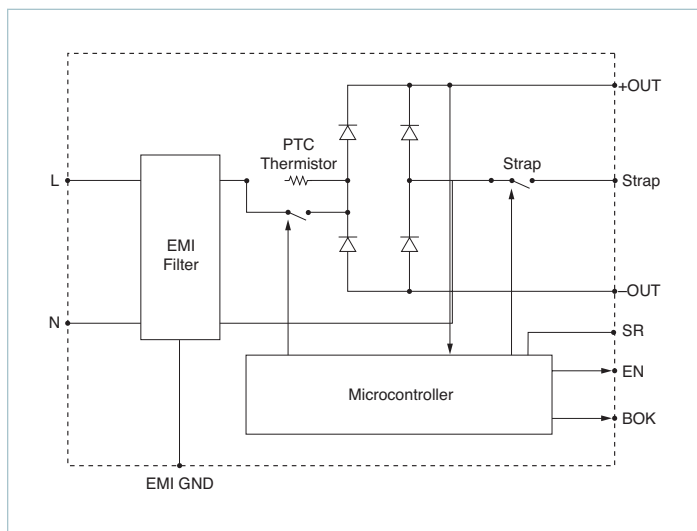

Figure 9 — Functional block diagram: FARM3 module
The ENMod component power front-end system for EN compliance provides an effective solution for an AC front end of a power supply enabled with Vicor DC-DC converters. The ENMod system's basic building blocks are the MiniHAM™ passive harmonic attenuation module, the FARM3™ autoranging AC-DC front-end module (Figure 9) and a discrete EMI filter.
**Functional Description** (FARM3, see Figures 9 & 10)
A signal diode should be placed close to and in series with the PC or (GATE-IN) pin of each converter to eliminate the possibility of control interference between converters. The Enable pin switches to the high state (15V) with respect to the SR pin to turn on the converters after the power-up inrush is over. The Enable function also provides input overvoltage protection for the converters by turning off the converters if the DC bus voltage exceeds 400VDC. The thermistor bypass switch opens if this condition occurs, placing the thermistor in series with the input voltage, reducing the bus voltage to a safe level while limiting input current in case the varistors conduct. The thermistor bypass switch also opens if a fault or overload reduces the bus voltage to less than 180VDC (see Figure 9).